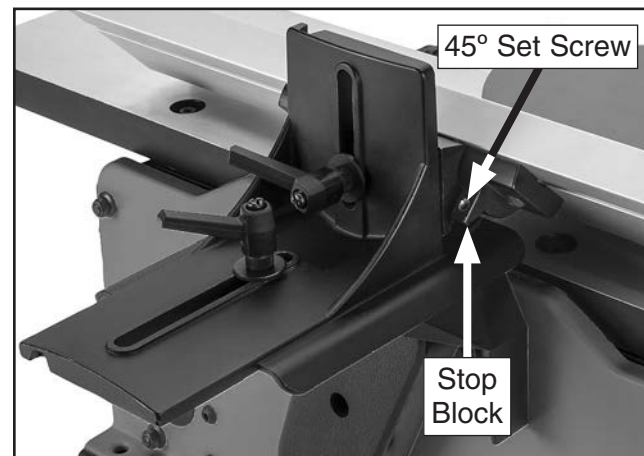

Figure 57. Adjusting 45° outward fence angle.
8. Adjust fence until it is flush against combination square, then tighten 45° set screw on fence slide bracket until it contacts stop block (see **Figure 57**).